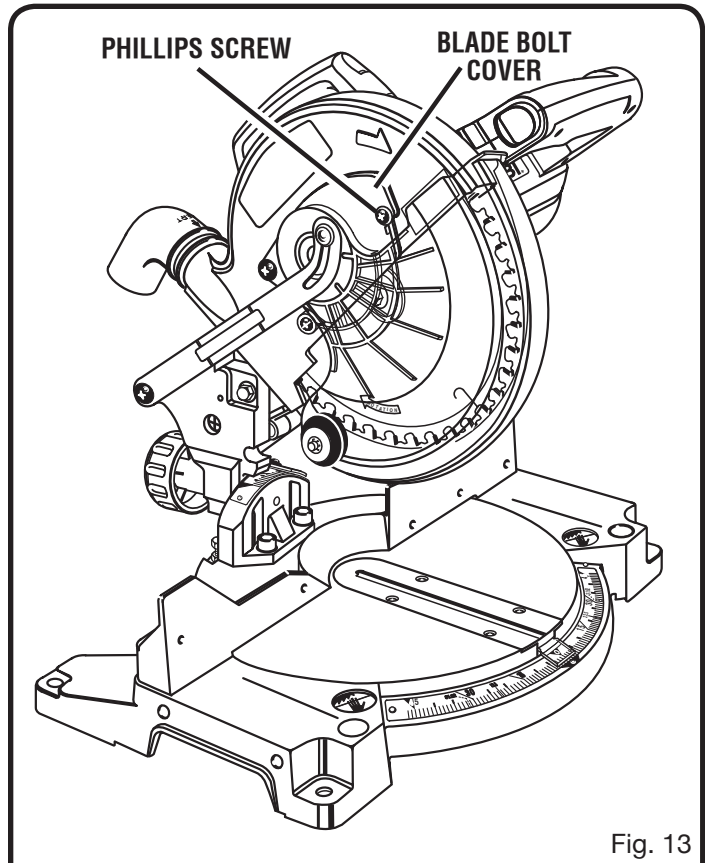

Fig. 13
See Figures 13 - 16.
- Loosen the phillips screw on the blade bolt cover until blade bolt cover can be raised. See Figure 13.
- Loosen the phillips screw on the blade bolt cover until blade bolt cover can be raised. *See Figures 13 - 15.*